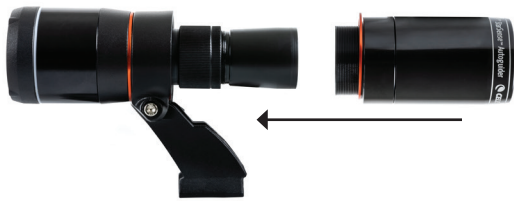

Fig. 9: Reinstall the front housing onto SSAG. Don't forget the orange cosmetic ring!
5. Reinstall SSAG's front housing and the orange front ring (Fig. 9).